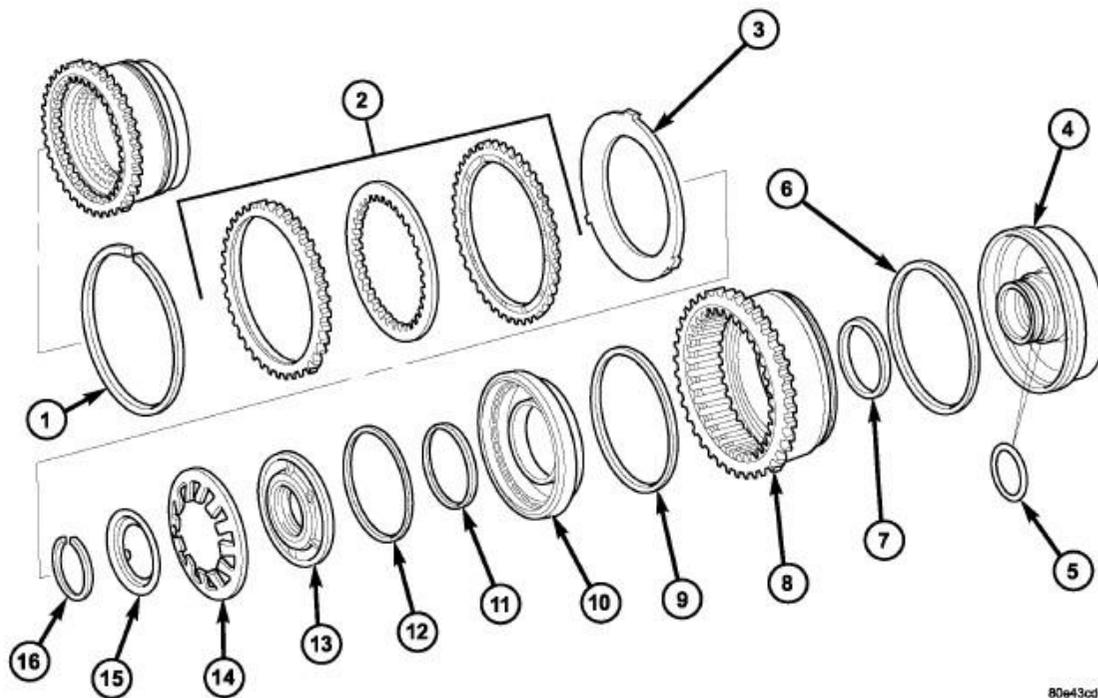

Fig. 120: Exploded View Of Holding Clutch B2
1. Remove snap ring (1). Refer to **Fig. 120**.
2. Take multiple-disc pack B2 (2) and disc spring (3) out of the outer multiple-disc carrier B2 (8). The outer multiple-disc carrier for the multi-disc holding clutch B2 is the piston for the multiple-disc holding clutch B3 at the same time. Note which clutch disc is removed just prior to the disc spring (3) for re-assembly. If the clutch discs are re-used, this disc must be returned to its original position on top of the disc spring.
3. Place the Multi-use Spring Compressor (special tool #8900A, Multi Use Spring Compressor) on the spring disc (14) and compress the spring until the groove for the snap-ring is exposed.
4. Remove snap-ring (16). Refer to **Fig. 120**.
5. Remove spring plate (15) and disc spring (14).